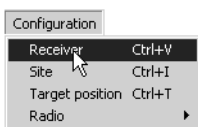

Figura 2-22. Configuration ▶ Receiver
3. Haga clic en **Configuration ▶ Receiver** (Figura 2-22).